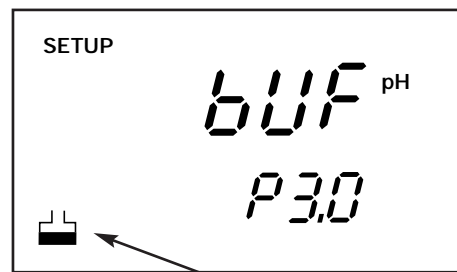

Figure 56
2. Press **▲** and **▼** keys to scroll through the programs until you view **bUF** in the primary display and **P3.0** in the secondary display. The buffer annunciator also appears. —See Figure 56.